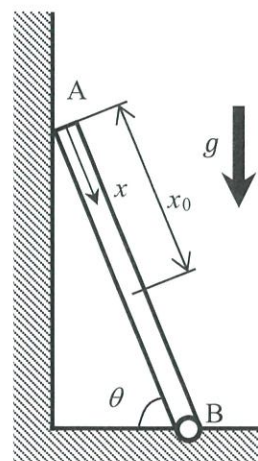

Figure 1-5
- (3) As shown in Figure 1-5, the bar is pinned on the horizontal floor at the bottom end B and supported by the smooth vertical wall at the upper end A. The bar is inclined at the angle  $\theta$  ( $\theta > 0$ ) with respect to the horizontal floor. A reaction force at the upper end A from the vertical wall is generated in the horizontal direction. Obtain the magnitude of this reaction force.
- (4) Obtain the bending moment on the cross-section of the bar at the distance  $x = x_0$  from the upper end A, as shown in Figure 1-5.
- (5) Obtain the maximum normal stress on the cross-section of the bar at the distance  $x = x_0$  from the upper end A, as shown in Figure 1-5.